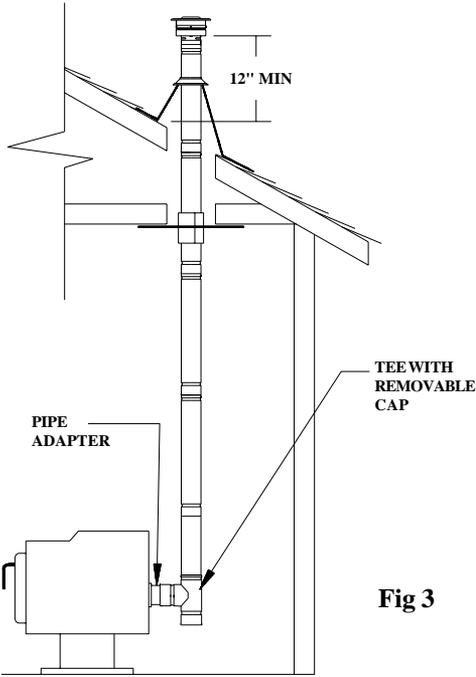

Fig 3
3. If the flue exit is on back of stove and interior installation is desired: (See the example in Figure 3):